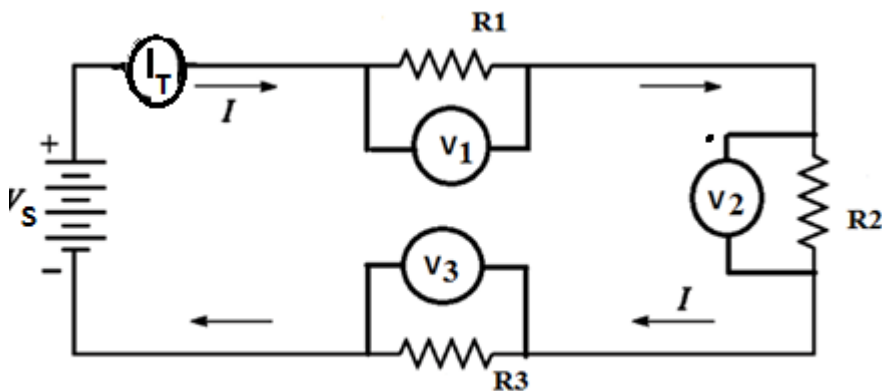

Fig. 1
1. Connect the circuit as shown in Fig. 1, set $V_s = 15V$